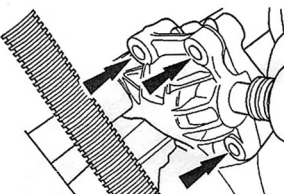

FIGURE 8
- Install gearbox housing screws and hand tighten. (Refer to Figure 8).